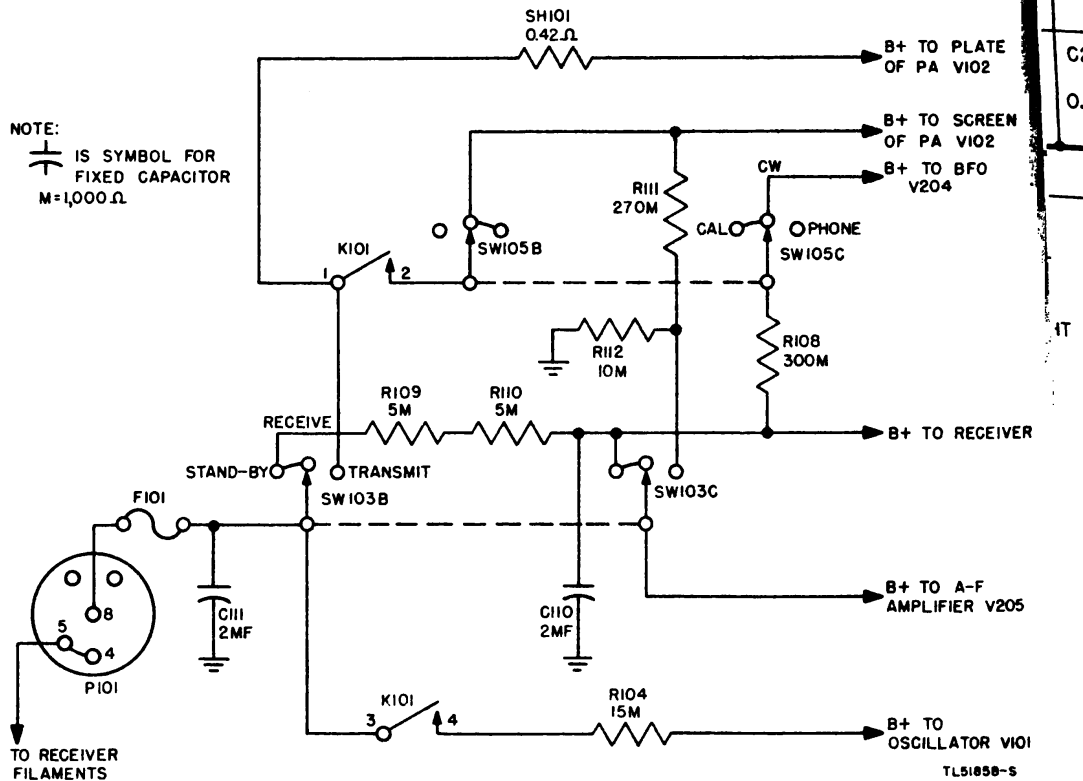

Figure 31. Receiver plate power supply circuit.
a. Plate voltage for the receiver section of Receiver-Transmitter RT-46/TRC-10 is obtained from switching and filter circuits in the transmitter section. Approximately +600 volts direct current is applied from the power supply unit through pin 8 of power connector P101 and fuse F101 to the following receiver circuits (fig. 31).